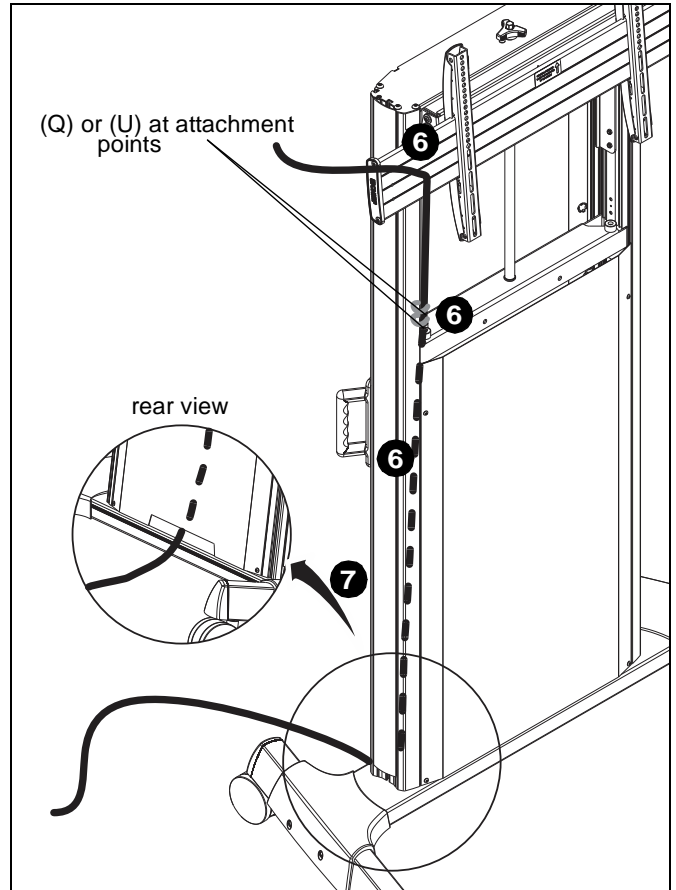

Figure 18
6. Route cables from display through inside of column assembly attaching at cable management attachment points and/or accessory bracket using cable ties (Q) or cable clips (U) as desired. (See Figure 18)
7. Route cables out through the slot on the back of the cart. (See Figure 18)